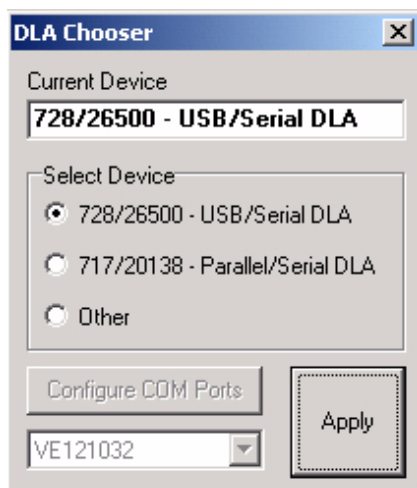

Fig 14.
- 4 The DLA Chooser window will open. Select the 'USB/Serial DLA' device and then click 'Apply'. → Fig 14. \(□ M4-9\)